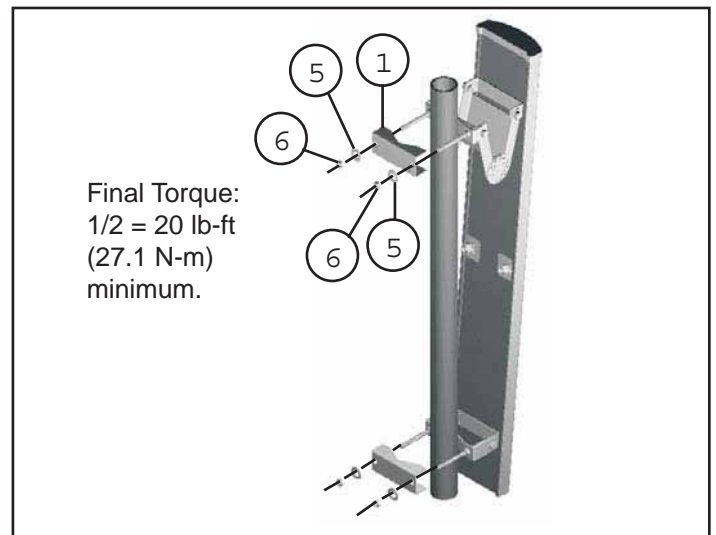

Figure 7. Fastening Bracket Assemblies to Pole.
1. Using the bracket clamps (Item 1) and 1/2 inch hardware, properly orient the antenna and mount to a 3.5–4.5 in (88–115 mm) OD pole. See Figure 7.
2. Tighten the 1/2 inch hex nuts (Item 6). Torque to 20 lb-ft (27.1 N-m) minimum, so that the bracket clamps firmly hold the antenna to the pipe as shown in Figure 7.